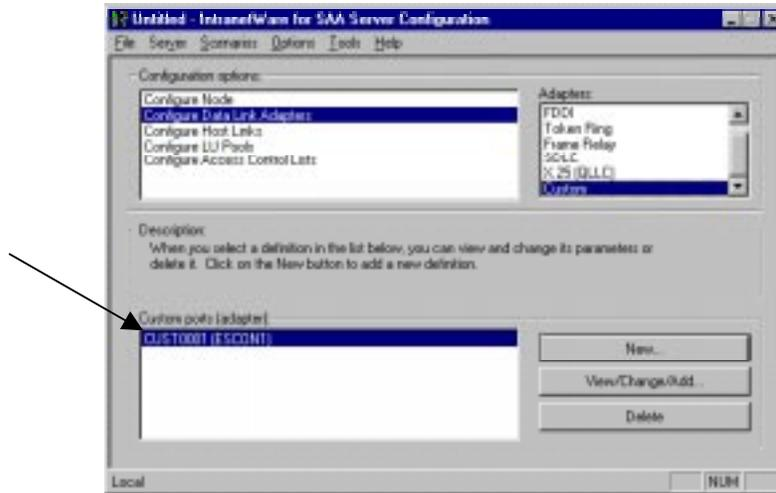

Figure 15-17. ESCON Adapter in SAA
1. Begin by verifying that the adapter is defined in the configuration. In the NetWare for SAA Configuration program, click “**Configure Data Link Adapters**” and then “**Custom**”. A custom adapter should be defined (Figure 15-17) for each host link (PU) that you have defined.